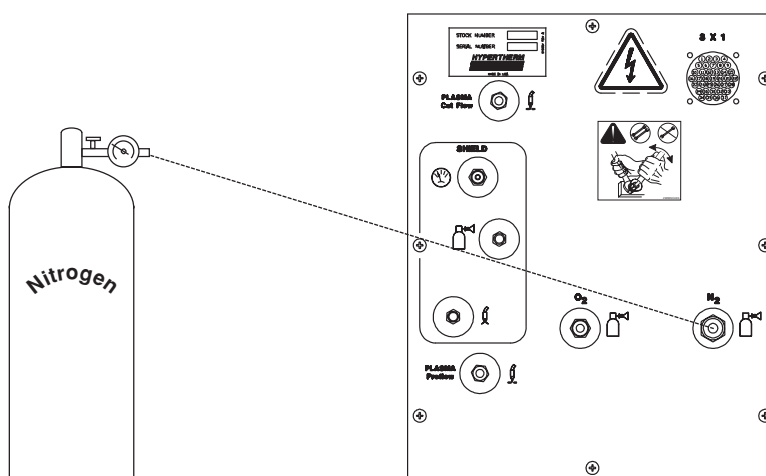

Figure a-6 Nitrogen Supply to N₂ Input of Gas Console
7. Connect the nitrogen supply hose to the N₂ connection of the gas console. See Figure a-6.